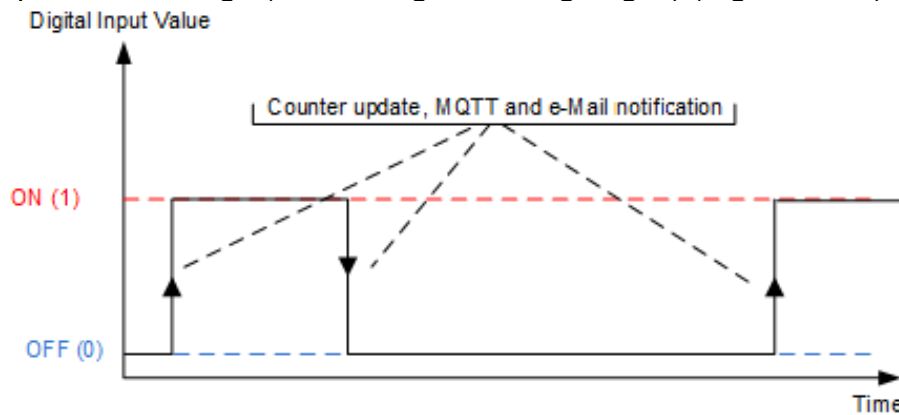

Figure 7.17. Counter update and notifications when **Edge** is set to "2 (Both)"
- **2 (Both)** – Counter update and notifications take place on every digital input state change (both falling and rising edges) (Figure. 7.17).